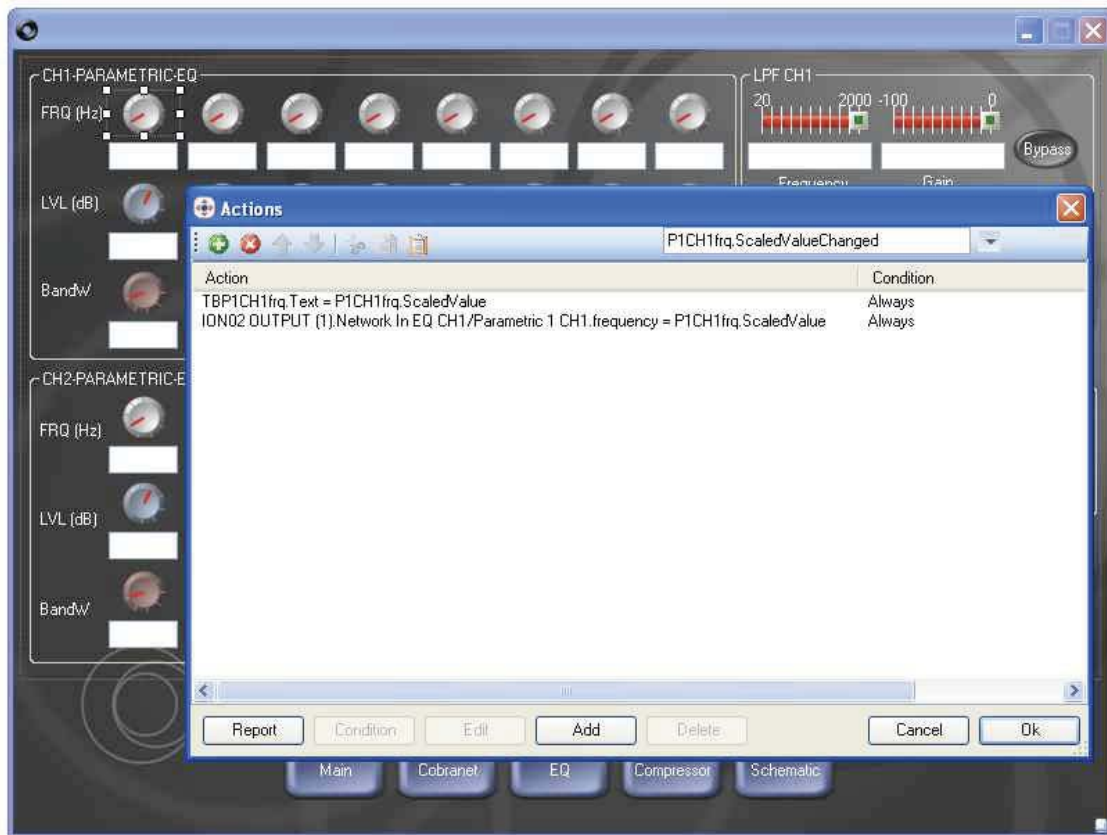

Figure 4-39:
- First use the textbox value to set the slider/knob value. The textbox should not set the device parameter directly. See example in Figure 4-39 below – the textbox used to set the CH1 band 1 Parametric frequency only sets the scaledValue of the knob.
- The slider/knob valueChanged Event should be used to set the device parameter value AND the textbox value. See example in Figure 4-39 below – the scaledValue of the knob is used to set both the textbox AND device parameter value.